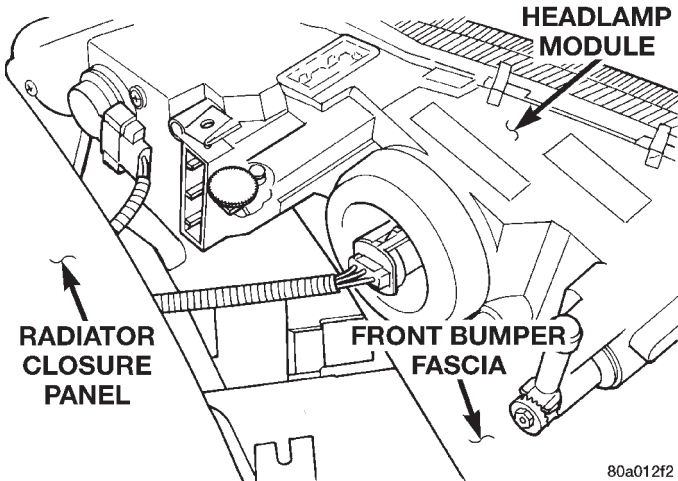

Fig. 3 Headlamp Module
- (3) Separate headlamp module from radiator closure panel (Fig. 3).
- (4) Disengage wire connector from headlamp bulb socket.
- (5) Rotate park/turn signal lamp socket one quarter turn counterclockwise.
- (6) Pull park/turn signal socket from headlamp module.
- (7) Separate headlamp module from vehicle.